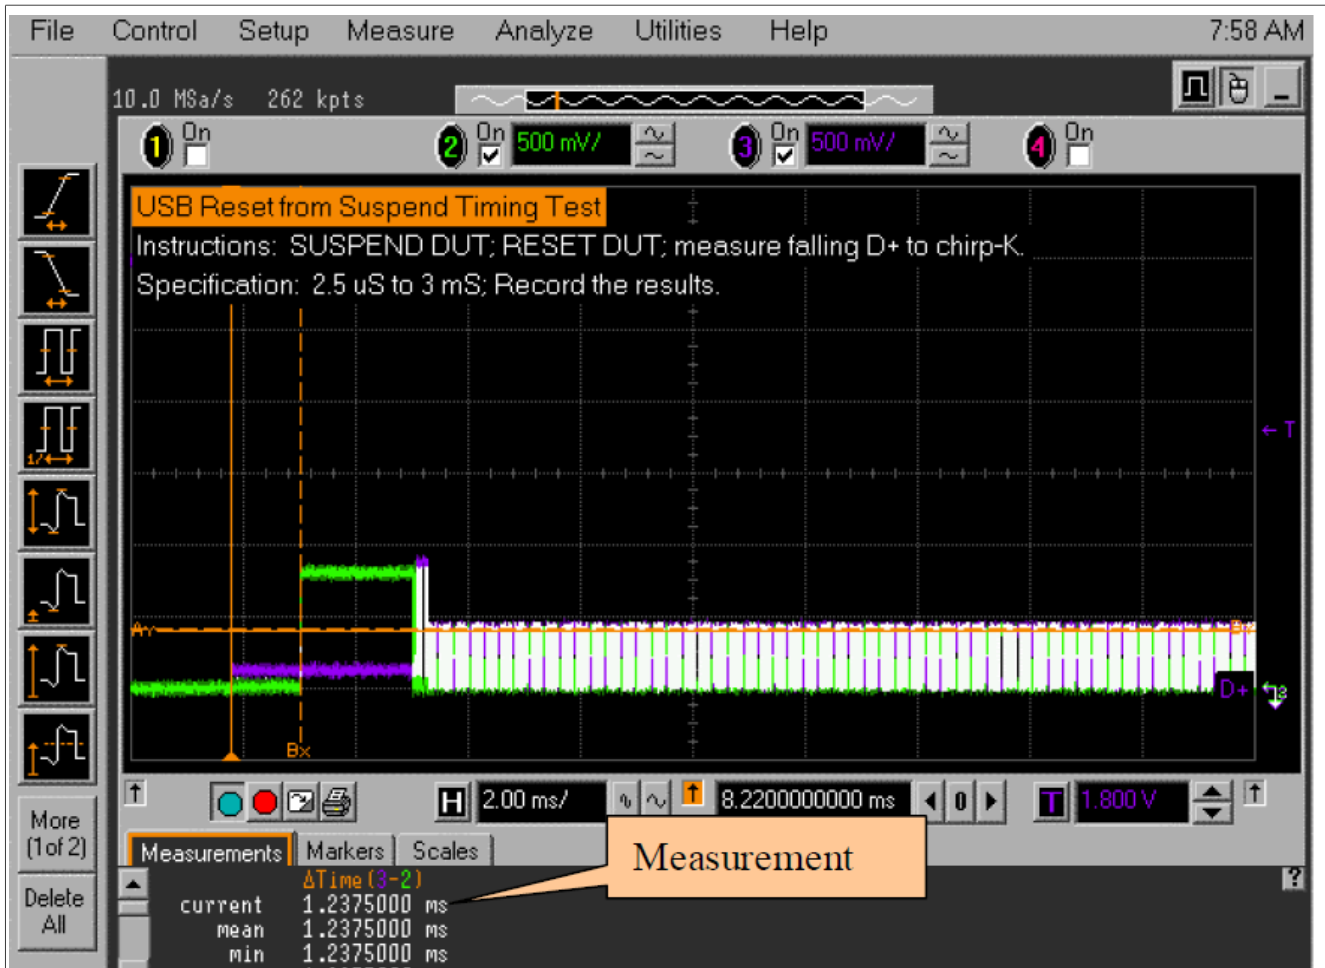

Figure 51. Device Reset from Suspend waveform
7. Select **SUSPEND**, and click **EXECUTE** to place the device into suspend once again. Then select **RESET** and click **EXECUTE** once to reset the device from suspend. The captured transition should appear as Figure 51 below.